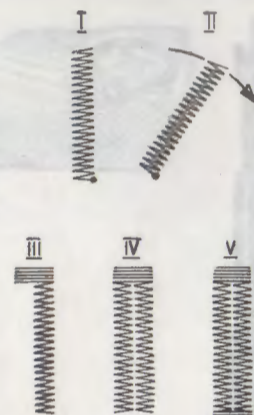

Fig. 58
- Bring lever «C» (Fig. 1) on 1.5 and make first row of stitches (Fig. 58, Operation I) going as far as to reach the limit marked by the guide. Leave needle in fabric.
- Raise presser foot and turn fabric half a turn around needle (Fig. 58, Operation II). Lower presser foot.
- Make first bar tack with 3 or 4 stitches (Fig. 58, Operation III) and stop sewing with needle out of fabric.
- Bring lever «C» on 1.5 and make second row of stitches as long as the first (Fig. 58, Operation IV). Stop sewing with needle out of the fabric.
- Bring lever «C» on 3 and make second bar tack (Fig. 58, Operation V).